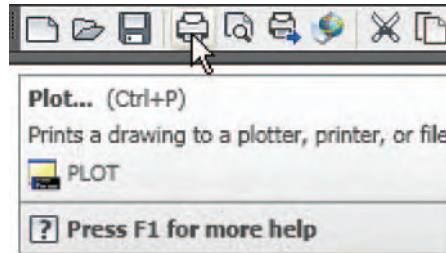

Fig. 15.44 Calling the **Plot** tool from the **Standard** toolbar
1. With a drawing to be printed or plotted on screen *click* the **Plot** tool icon in the **Standard** toolbar (Fig. 15.44).